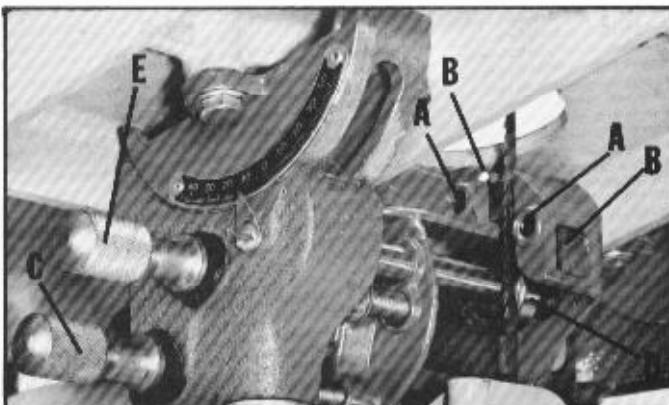

Fig. 21
1. Loosen the two screws (A) Fig. 21, and move the guides (B) as close as possible to the side of the blade, being careful not to pinch the blade. Then tighten screws (A).
2. The front edge of the guide blocks (B) should be adjusted so they are just behind the "gullets" of the saw teeth by turning the knurled knob (C) Fig. 21.
3. The lower blade support bearing (D) Fig. 21, should be adjusted so it is about $1/64"$ behind the back of the blade by turning the knurled knob (E).